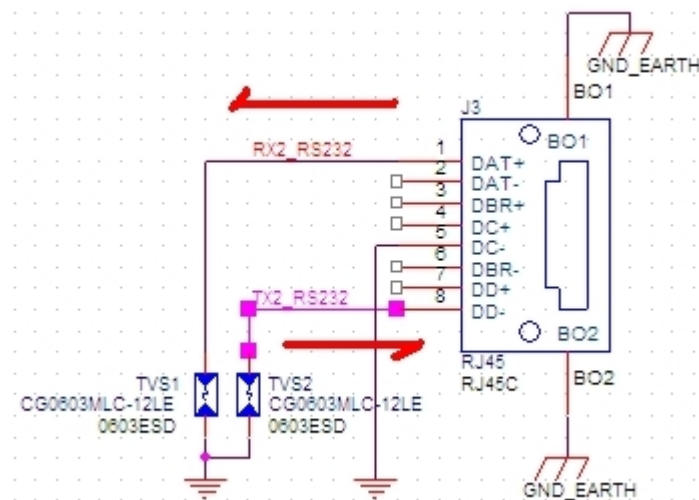

Figure 3-21
- In control serial port RJ45 of control panel of splicing controller, no. 1 is RXD, no. 8 is TXD and no. 5 is grounding, as shown in Figure 3-21.